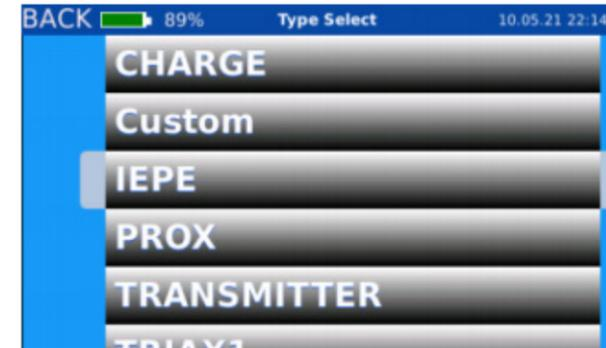

Figure 21. Select sensor type
2. In the Test menu, select **IEPE** from the sensor type list (Figure 21).